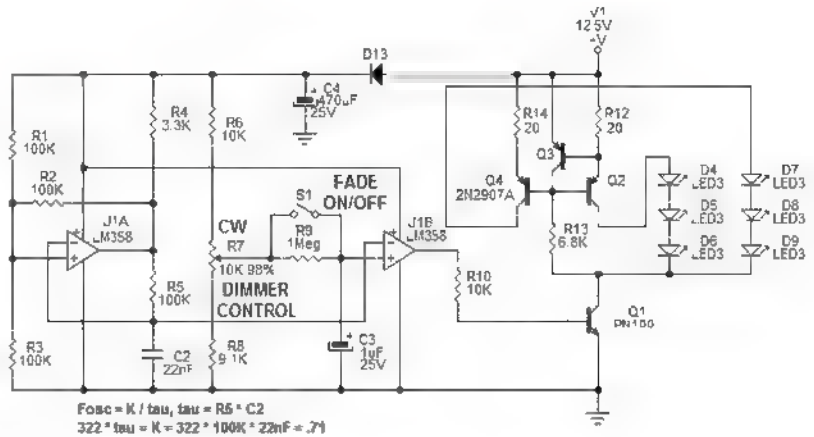

FIGURE 2. LED light dimmer application with on/off fade.
Go to the article link and download the GPS template. Cut out the template and glue it to the top of the box using a glue stick. Drill the four holes as indicated. Use hot water to remove the template. Place the two-battery holder into the bottom of the box. Remove the two posts either using a mill or a Moto tool for placement of the single C holder. Refer to **Figure 2**.
■ FIGURE 2. C holder placement.
The output of U1B is connected to a switch to power the load. In **Figure 1**, the output is connected via R10 to the gate of Q1 which is an IRLZ44 MOSFET transistor. D3 and R11 protect the gate of Q1 from being over-driven with voltage. R12 provides a light resistive load to Q1, while D4 protects Q1 from inductive load voltage spikes. An alternate design is shown in **Figure 2** with a current mirror-limit formed with R12, R13, R14, and transistors Q2, Q3, and Q4. With R12 and R14 equal to 20 ohms, the current to the LED strings composed of D4-6 and D7-9 is .6V/20 or 30 mA.